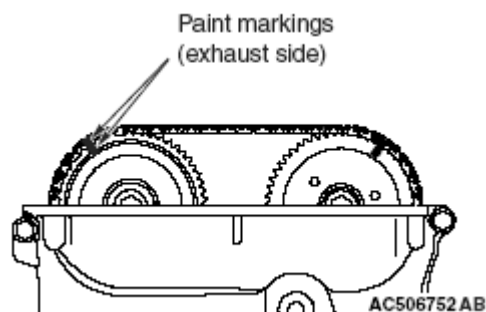

Fig. 49: Aligning Exhaust Side Paint Mark Of Timing Chain With Paint Mark Of Exhaust Side Camshaft Sprocket
6. Pull up the camshaft and camshaft sprocket assembly (exhaust side) mounting area of the timing chain (**Fig. 49**) to provide allowance for easy installation of the camshaft and camshaft sprocket assembly (exhaust side) to the timing chain.